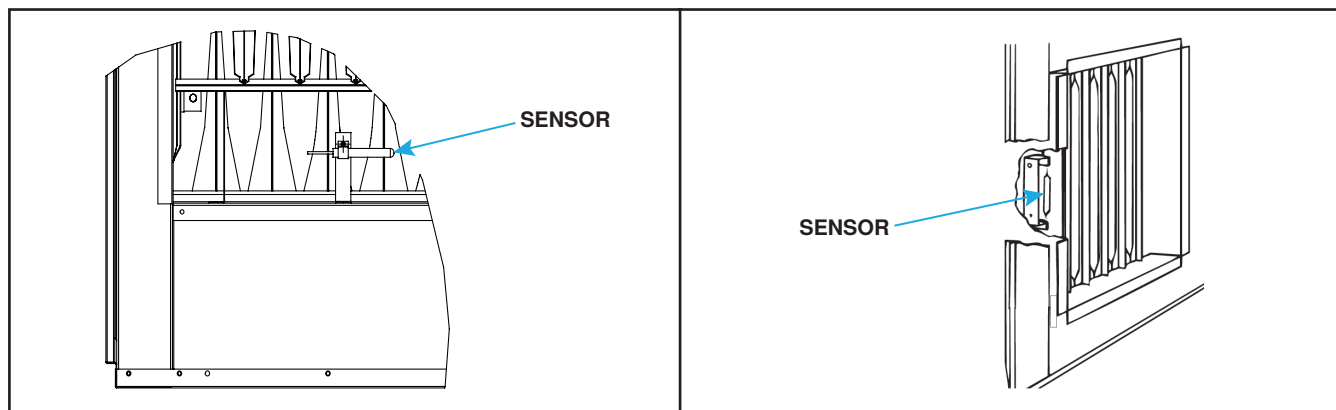

Figure 6. Shipping Locations of Capillary Sensor
Depending on the gas control option, the discharge air temperature sensor is either factory- or field-installed. Field-installed sensors have one of two configurations: a sensor and mixing tube assembly or a sensor holder and junction box assembly. For units with the sensor holder and junction box assembly option, the sensor is normally installed on a bracket in the furnace discharge for shipping but it may be mounted in the cabinet leg (see Figure 6).
- (1) Before connecting ductwork to furnace, remove capillary sensor from its shipping position on furnace (see Figure 6).